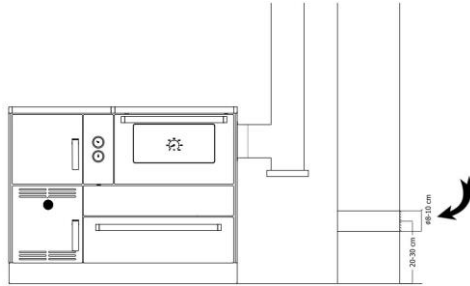

Figure 2
- In the space where the firing equipment is placed, ensure there is sufficient fresh air. If the windows and doors are sealed (made according to the energy efficiency criteria) or some other devices are also operational, such as hearing devices, vacuum cleaners, laundry driers, fans, etc. in the space where the cooker is being installed, the air required for combustion (fresh air) has to be introduced from outside (Fig. 2). The air grid has to be positioned so that it cannot be blocked.